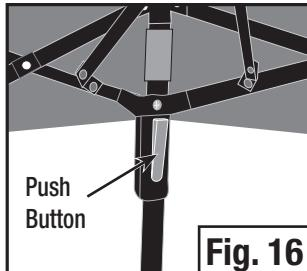

Fig. 16
- Press the push buttons found at upper corners of the frame. (Fig. 16) Collapse shelter frame and store in carry bag.